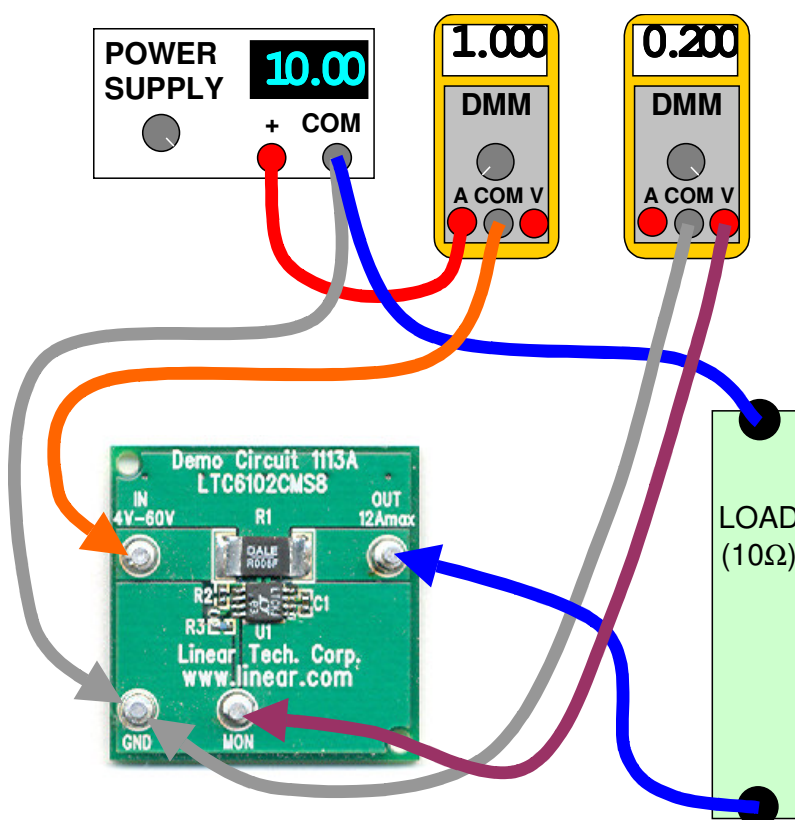

Figure 1. Proper Measurement Equipment Setup
Demonstration circuit 1113 is easy to set up to evaluate the performance of the LTC6102. Refer to Figure 1 for proper measurement equipment setup and follow the procedure below:
1. With power off, connect the power supply positive to IN and the common to GND. This supply should be in the range of 4V to 60V. If this supply is not equipped with an accurate current readout, a DMM (set to measure Amperes) may be connected in series with the supply as shown in Figure 1.